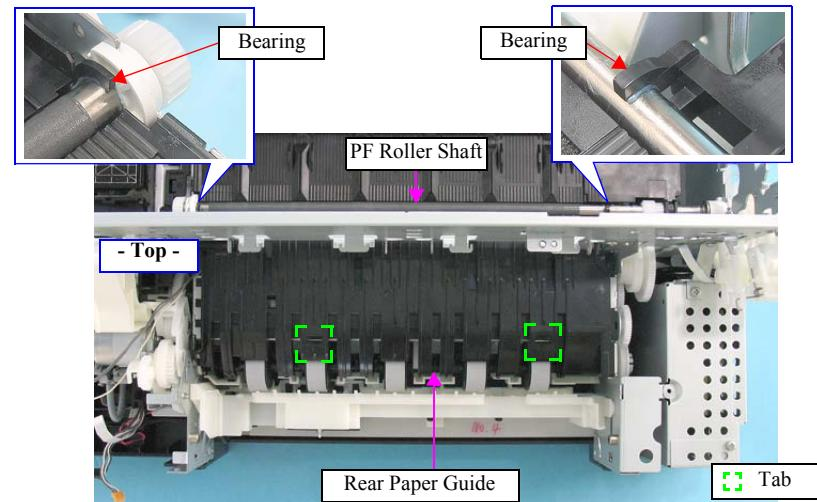

Figure 4-207. Removing the Rear Paper Guide
- When installing the Rear Paper Guide, securely attach its two bearings to the PF Roller shaft as shown in Figure 4-207.